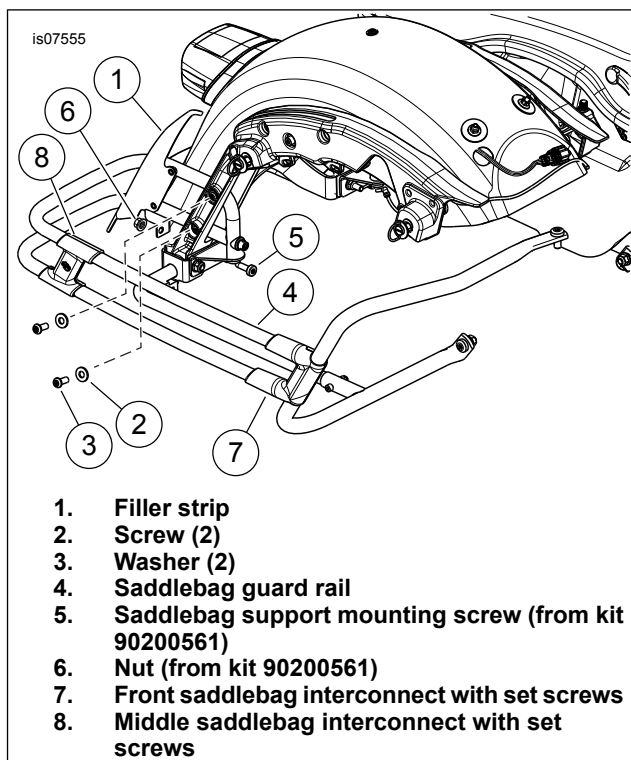

Figure 2. Slotted Filler Strip Installation
2. See Figure 2. Remove bottom saddlebag support mounting screw (5) and nut (6). Discard hardware.
3. Remove the front interconnect (7) and middle interconnect (8) from the rails. Keep the rails roughly parallel to one another.